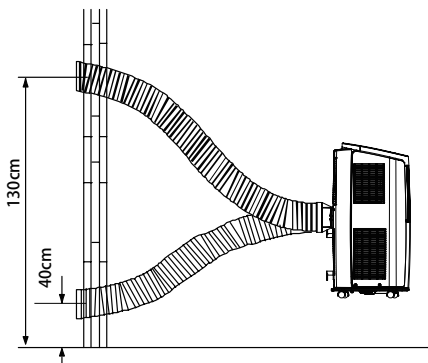

Fig.15
- Correct installation is as shown in figure (When installing it on wall, height of wall should be about 40cm-130cm from floor). (As shown in Fig.15)